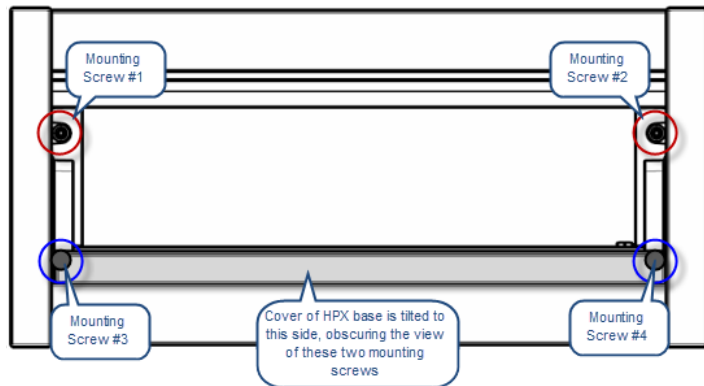
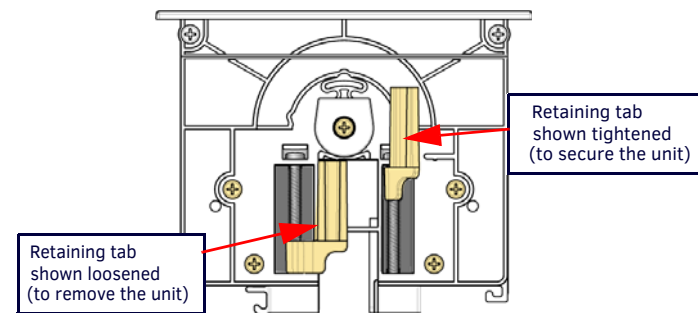

FIG. 6 HPX BASE ASSEMBLY (SHOWN MOUNTED) - MOUNTING SCREWS LOCATIONS
FIG. 7 HPX BASE ASSEMBLY (SHOWN MOUNTED) - MOUNTING SCREWS LOCATIONS
2. Tighten the four mounting screws (FIG. 6) located inside and at each end of the HPX base assembly, to rotate the retaining tabs (FIG. 7) into locking position under the mounting surface.
2. Loosen the four mounting screws located inside and at each end of the HPX base assembly (FIG. 6), to rotate the retaining tabs from under the mounting surface.
3. Once the retaining tabs have been rotated out from under the mounting surface, the HPX assembly can be lifted away from the mounting surface. FIG. 7 provides a cutaway view of the End Cap, showing the retaining tabs highlighted in both the loose position and the tightened (secure) position.